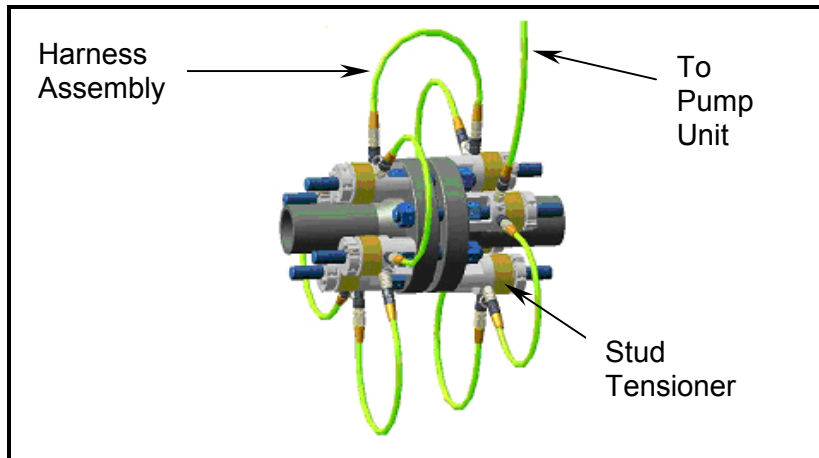

FIGURE 2-1
- 2.2 Given the geometry of the misalignment flanges, the stud tensioners are expected to be set up as follows. The stud tensioners will be installed on every other stud on both sides of the connection to avoid interference between the tensioners. They are then interconnected by means of a harness assembly to a single pump unit. This allows each tool to be pressurized simultaneously providing accurate residual bolt loading and uniform compression of a joint. Figure 2-1 below shows an illustration of a typical tensioning application set up.